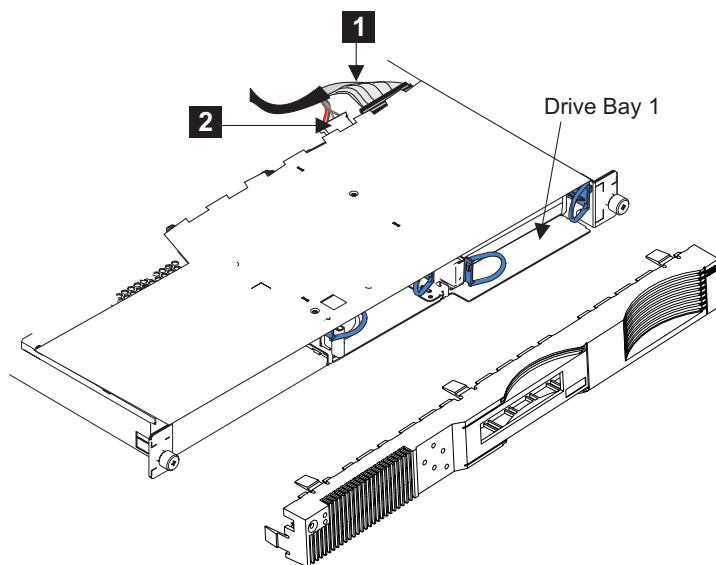

Figure 42. Removing the disk drive
4. Remove the top cover of the SAN Volume Controller. See Figure 42.